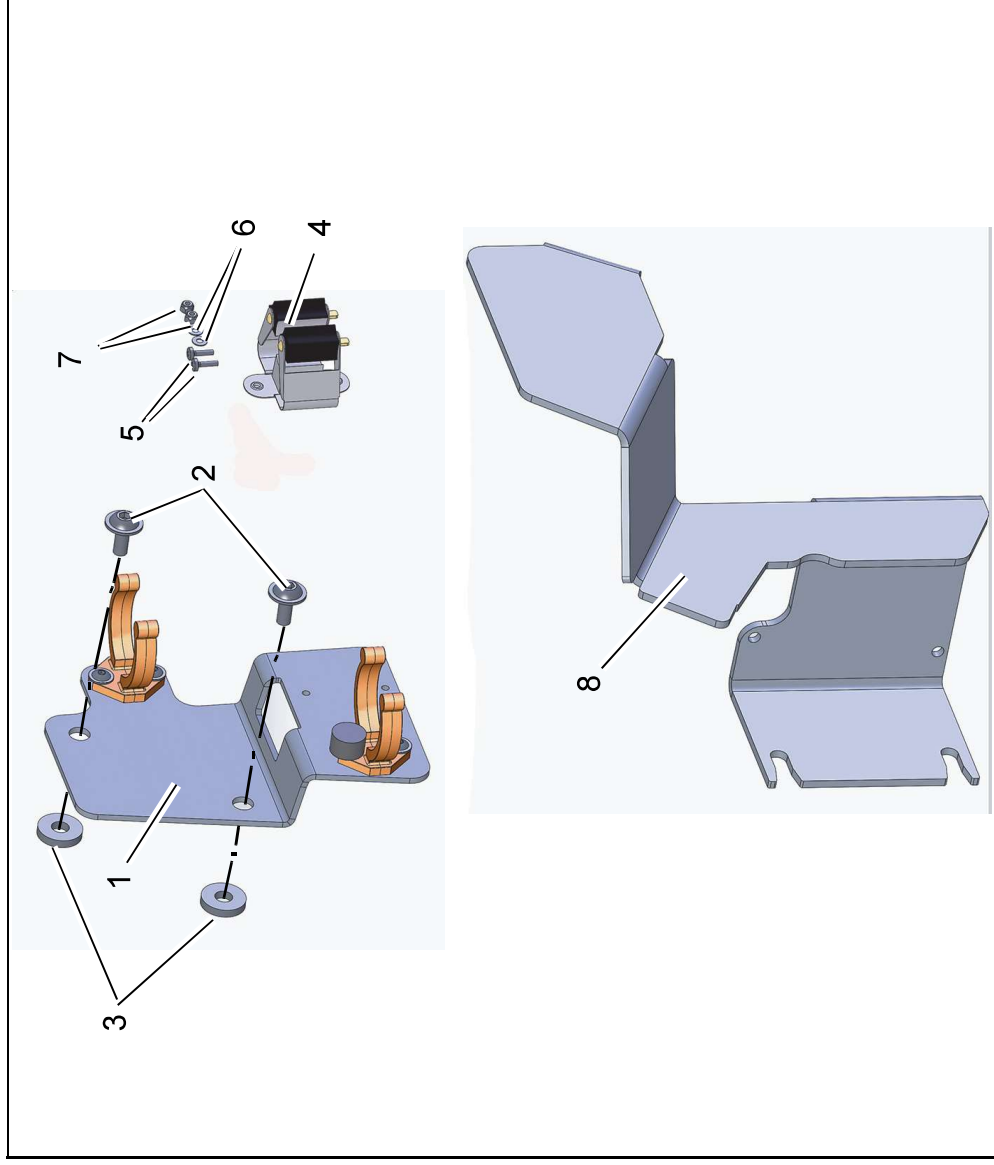
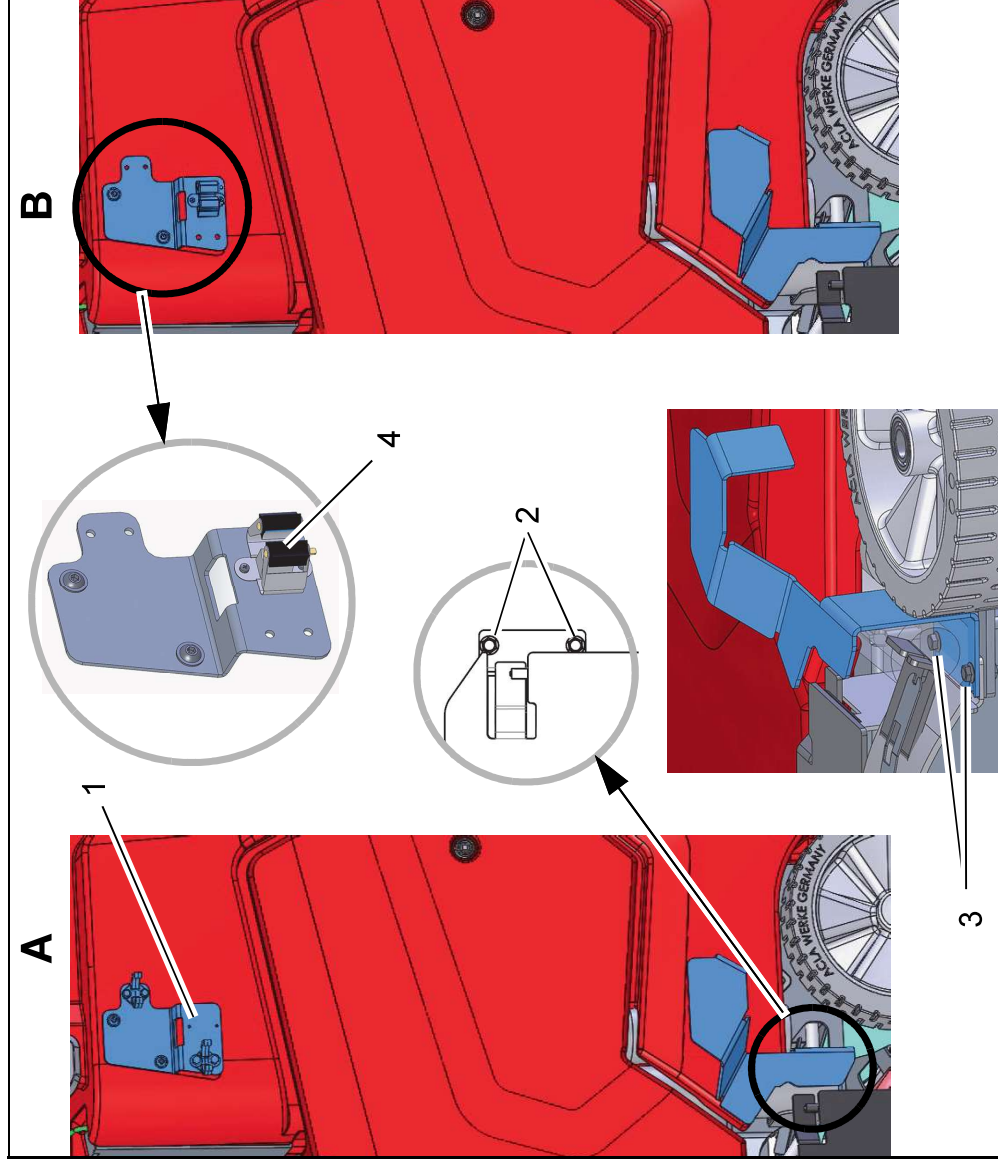

Fig. 1
Fig. 2
#### For manual suction tool (Fig. 2/A)
1. Holder, pre-assembled (Fig. 2/1) with flanged button head bolts M8x12 (Fig. 1/2) and washers 8.4 (Fig. 1/3), fit to left-hand side of machine as shown in the illustration. Maximum tightening torque 10 Nm.
2. Slightly slacken the fastening screws M8x25 of the side scraper (Fig. 2/2) and slide set-down plate for tool sideways as far as the slackened screws (Fig. 2/3).
#### For mop (Fig. 2/B)